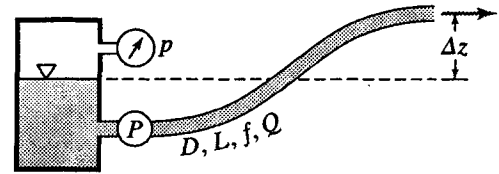

Figure P15.49
- 15.49 Water at 170°F is pumped through a 15-in-diameter pipe ($f = 0.028$) 2000 ft long from a large pressurized tank ($p = 30$ psi) whose water surface is at elevation 200 ft to a point of discharge in the atmosphere at elevation 242 ft (Fig. P15.49).